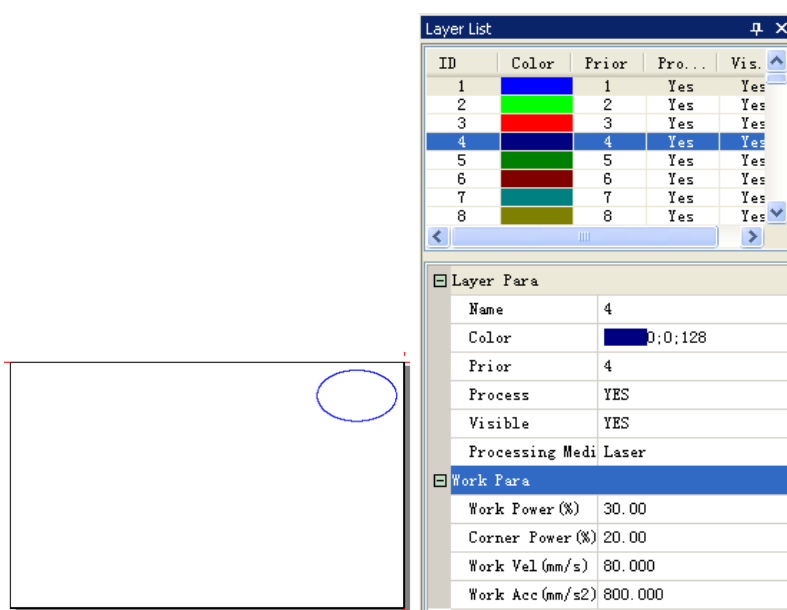

Fig. 4-3
- ◆ Click the button of Ellipse in the menu of tool, and click an ellipse in the work space, select this ellipse, setting the work power and work speed. Setting the work speed is 50mm/s, setting the work power is 40%, the corner power is 30%, as in fig 4-3.